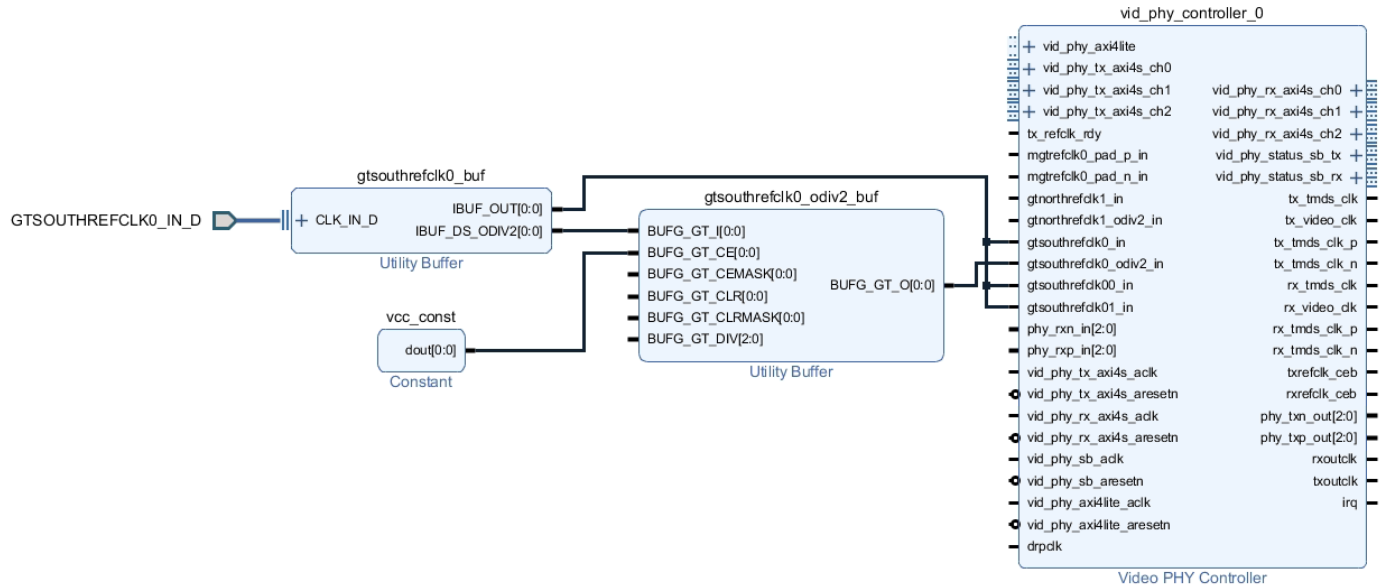

Figure 3-7: South Reference Clock
The Video PHY Controller opens the North and South reference clocks ports differently, depending on which PLL they are associated with. Additional ports with suffix 00 and 01 are opened when a reference clock is used with QPLL0/1. See Figure 3-7 and refer to Connecting an UltraScale/UltraScale+ GT South Reference Clock to a QPLL0/1.
- gtsouthrefclk0: This port is the GT Channel clock and must be connected to the IBUF_OUT port of the IBUFDSGTE GT input clock buffer. See Figure 3-7.
- gtsouthrefclk00_in: This port is the QPLL0 clock and must be connected to the IBUF_OUT port of the IBUFDSGTE GT input clock buffer. See Figure 3-7.
- gtsouthrefclk01_in: This port is the QPLL1 clock and must be connected to the IBUF_OUT port of the IBUFDSGTE GT input clock buffer. See Figure 3-7.
- gtsouthrefclk0_odiv2_in: This port is the fabric clock and must be connected to the BUFG_GT_O port of the BUFG_GT buffer which is being driven by the IBUF_DS_ODIV2 output of IBUFDSGTE GT input clock buffer. See Figure 3-7.